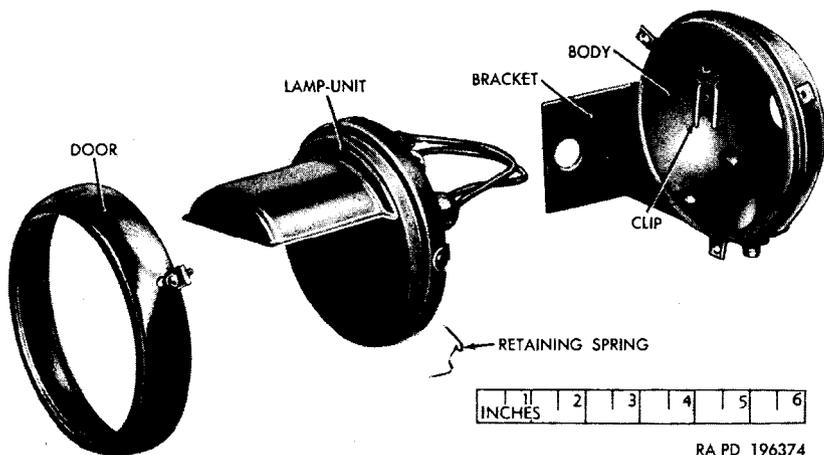
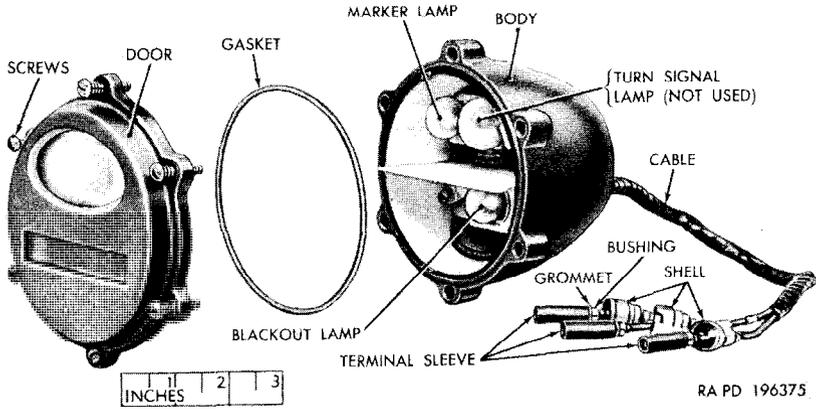

Figure 141. Blackout driving light—exploded view.
Figure 142. Blackout marker light—exploded view.
- (1) Unscrew the three screws that secure the blackout driving light door to the body, and pull the door and lamp-unit (fig. 141) from the body far enough to expose the lamp-unit cable connectors.
- (2) Remove the two cable connectors from the clips inside the body. Disconnect the cable connectors and cable (a(4) above).
- (3) Remove the three lamp-unit retaining springs and remove the lamp-unit from the door.
- (4) Install the new lamp-unit in the door and install the three lamp-unit retaining springs.
- (5) Connect the two lamp-unit cables to the cables in the headlight body (a(5) above). Engage the cable connectors in the clips.
- (6) Position the door and lamp-unit on the body and tighten the three attaching screws.
c. Replace Lamps in Blackout Marker Lights or Taillights (fig. 13). The same type double tungsten filament lamps are used for the blackout marker lights (fig. 139) and the taillights. The stop light lamps are a single tungsten filament. To replace any of the lamps, unscrew the six screws that secure the door to the body (fig. 142). Remove the door and the door gasket. Remove the lamp to be replaced and install a new lamp of the same type. Install the gasket, replacing it with a new one if necessary, and install the door (fig. 142).